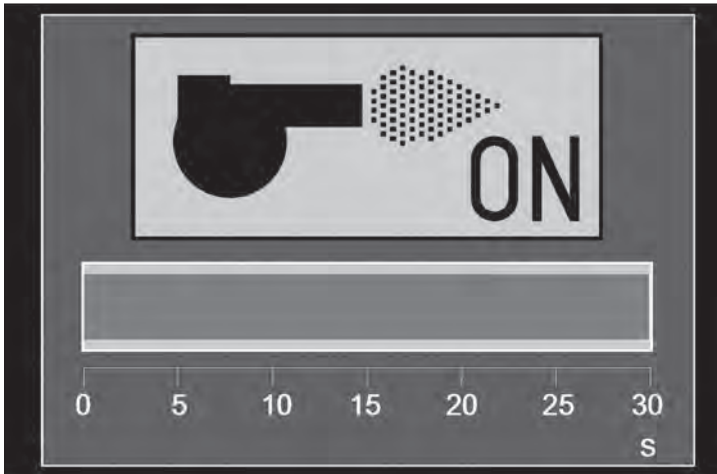

Figure 26
- Burner Ignited – Fuel is flowing into the combustion chamber and has ignited. See Figure 26.